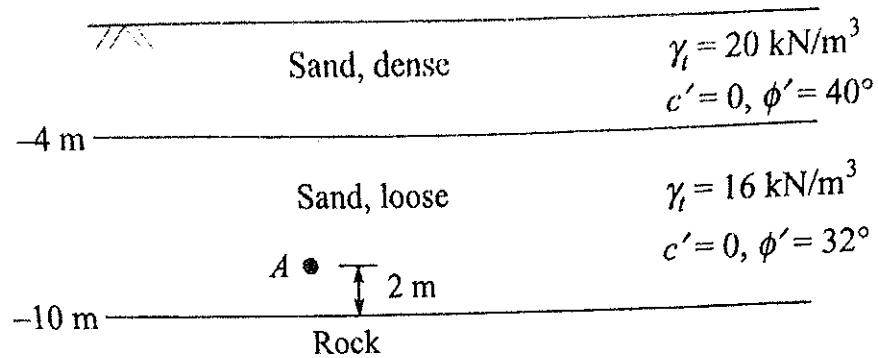

Fig. 3
5. Find the maximum grout pressure that can be applied for permeation grouting at point A in the loose sand layer shown in Fig. 3. [6]